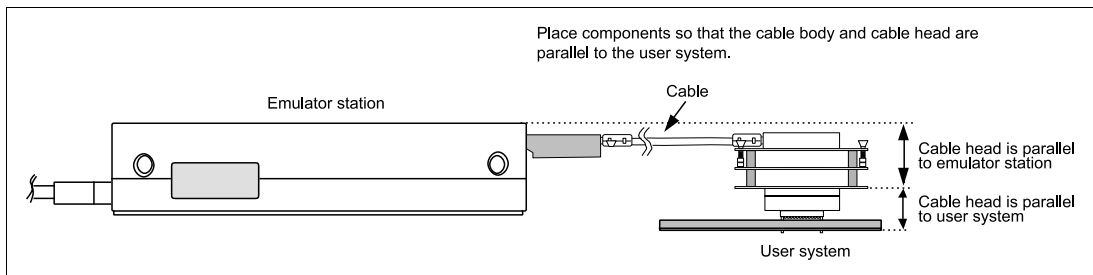

Figure 13 User System Interface Cable Location Example
5. While the emulator station is connected to the user system with the user system interface cable, force must not be applied to the cable head. Place the emulator station, user system interface cable, and user system as shown in the example in figure 13.